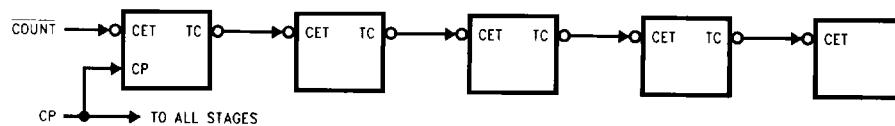
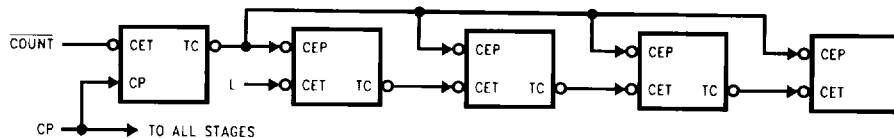

FIGURE 1. Multistage Counter with Ripple Carry
FIGURE 2. Multistage Counter with Lookahead Carry
*Figure 1* shows the connections for simple ripple carry, in which the clock period must be longer than the CP to TC delay of the first stage, plus the cumulative CET to TC delays of the intermediate stages, plus the CET to CP setup time of the last stage. This total delay plus setup time sets the upper limit on clock frequency. For faster clock rates, the carry lookahead connections shown in *Figure 2* are recommended. In this scheme the ripple delay through the intermediate stages commences with the same clock that causes the first stage to tick over from max to min in the Up mode, or min to max in the Down mode, to start its final cycle. Since this final cycle requires 16 clocks to complete, there is plenty of time for the ripple to progress through the intermediate stages. The critical timing that limits the clock period is the CP to TC delay of the first stage plus the CEP to CP setup time of the last stage. The TC output is subject to decoding spikes due to internal race conditions and is therefore not recommended for use as a clock or asynchronous reset for flip-flops, registers or counters.